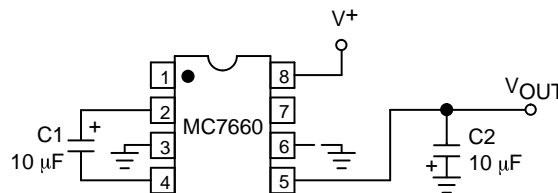
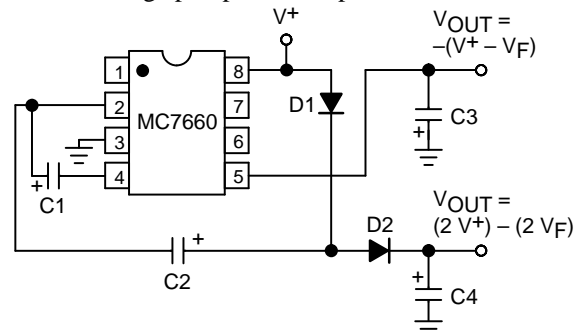
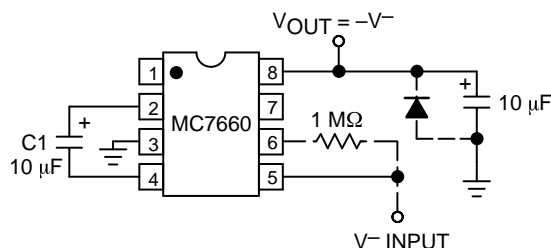
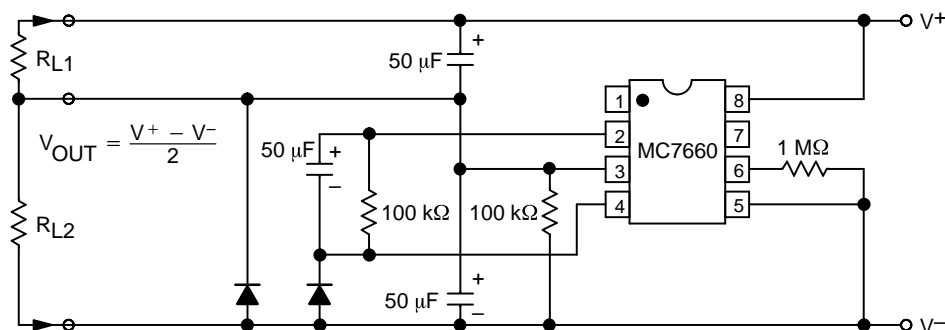

Figure 3. Simple Negative Converter
Figure 9. Combined Negative Converter and Positive Multiplier
Figure 10. Positive Voltage Conversion
Figure 11. Splitting a Supply in Half
Figure 3 shows typical connections to provide a negative supply where a positive supply is available. A similar scheme may be employed for supply voltages anywhere in the operating range of +1.5V to +10V, keeping in mind that pin 6 (LV) is tied to the supply negative (GND) only for supply voltages below 3.5V.
The output characteristics of the circuit in Figure 3 are those of a nearly ideal voltage source in series with 70Ω. Thus, for a load current of -10mA and a supply voltage of +5V, the output voltage would be -4.3V.
Figure 9 combines the functions shown in Figures 3 and 8 to provide negative voltage conversion and positive voltage multiplication simultaneously. This approach would be, for example, suitable for generating +9V and -5V from an existing +5V supply. In this instance, capacitors  $C_1$  and  $C_3$  perform the pump and reservoir functions, respectively, for the generation of the negative voltage, while capacitors  $C_2$  and  $C_4$  are pump and reservoir, respectively, for the multiplied positive voltage. There is a penalty in this configuration which combines both functions, however, in that the source impedances of the generated supplies will be somewhat higher due to the finite impedance of the common charge pump driver at pin 2 of the device.
Since the switches that allow the charge pumping operation are bidirectional, the charge transfer can be performed backwards as easily as forwards. Figure 10 shows a MC7660 transforming  $-5\text{V}$  to  $+5\text{V}$  (or  $+5\text{V}$  to  $+10\text{V}$ , etc.). The only problem here is that the internal
clock and switch-drive section will not operate until some positive voltage has been generated. An initial inefficient pump, as shown in Figure 9, could be used to start this circuit up, after which it will bypass the other ( $D_1$  and  $D_2$  in Figure 9 would never turn on), or else the diode and resistor shown dotted in Figure 10 can be used to "force" the internal regulator on.
The same bidirectional characteristics used in Figure 10 can also be used to split a higher supply in half, as shown in Figure 11. The combined load will be evenly shared between the two sides. Once again, a high value resistor to the LV pin ensures start-up. Because the